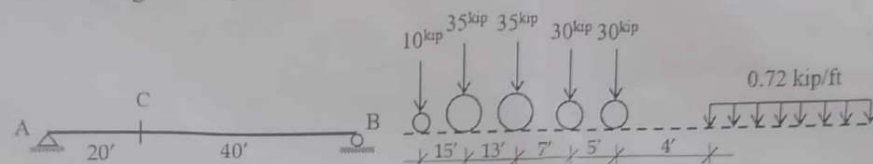

Figure-01
1. a). Calculate the maximum shear force and maximum moment at point "C" of a simply supported beam having 60 ft length due to the multiple wheel loads as shown in Figure-01. [06]